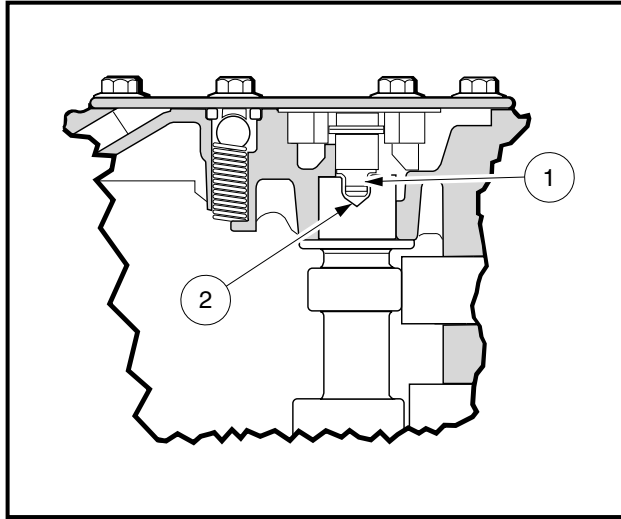

Figure 13-100 Proper Seating of Tang into Camshaft Slot
- When installing the camshaft, make sure that the tang (1) on the oil pump rotor seats in the slot (2) in end of the camshaft (Figure 13-100, Page 13-47). If the oil pump tang is not seated in the slot in the camshaft, serious engine damage will result.